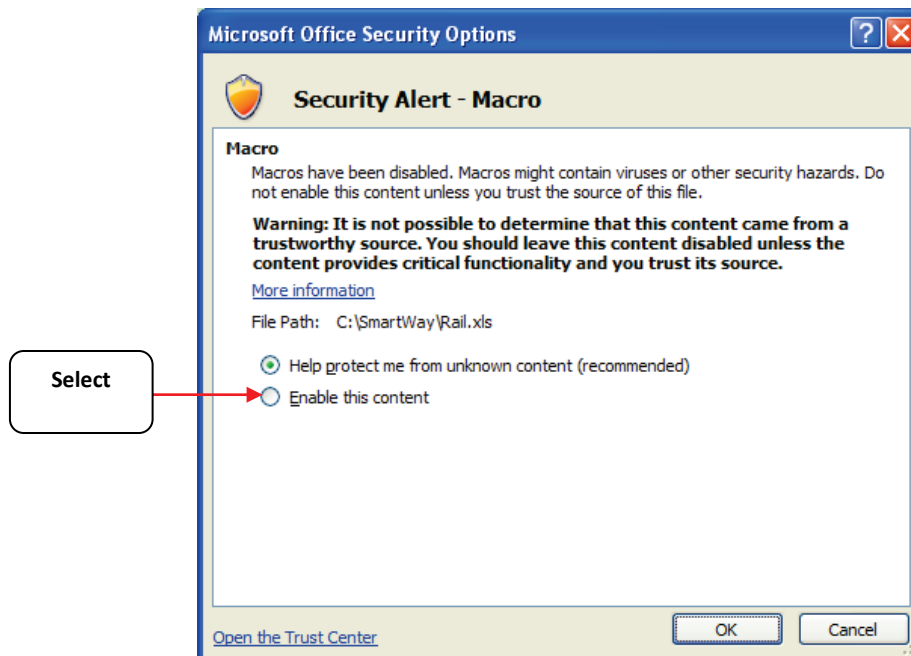

Figure 6 Security Options Dialogue Box
- 3) In the Microsoft Office Security Options dialog box (Figure 6), choose "Enable Macros" and select **OK**.